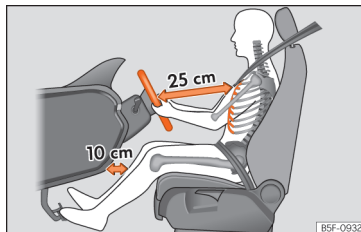

Fig. 18 The correct distance between the driver and the steering wheel must be at least 25 cm [10 inches].
- Adjust the steering wheel so that it is at a distance of at least 25 cm (10 inches) from the sternum »» Fig. 18 and can hold it with both hands on the sides, on the outside, with the arms slightly flexed.